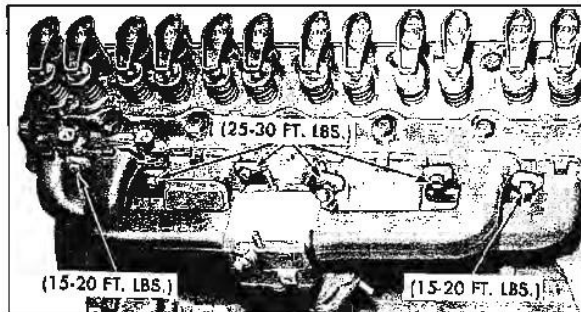

Fig. 6-24 Manifold Attaching Points
11. Clean manifold gasket surfaces and install new gasket over manifold studs. Position manifold and slide it into place over the studs, making sure it seats against the gasket. Install bolts and clamps and tighten as shown in Fig. 6-24.